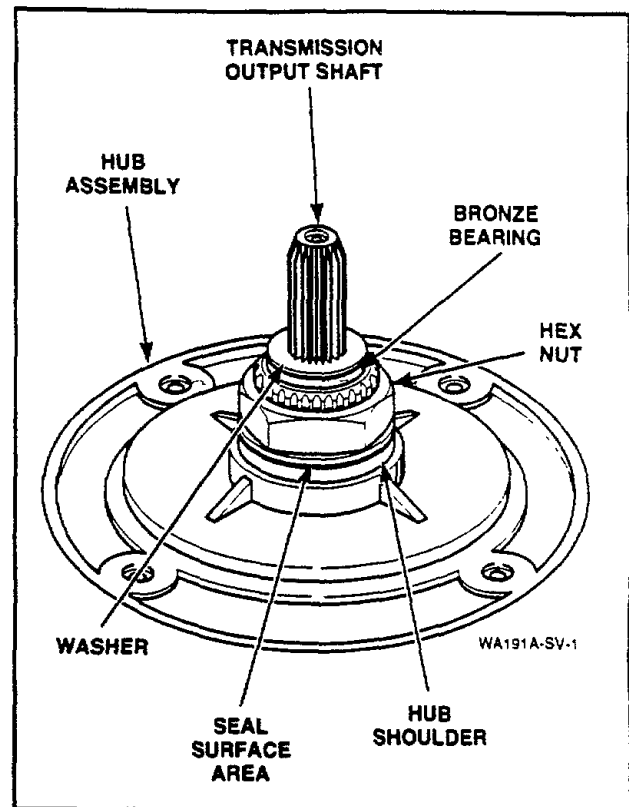

Figure 54
- i. Thoroughly clean any foreign material from seal surface area of hub and bronze bearing, *Figure 54*.